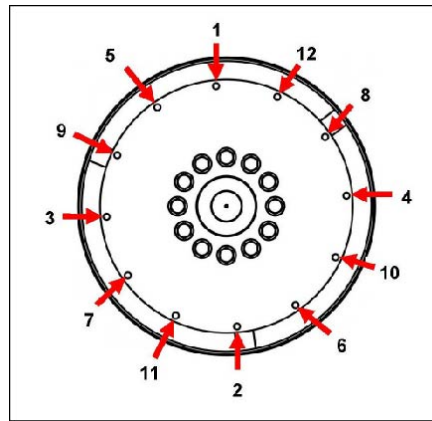

FIGURE 11. FIXING SEQUENCE
10. Remove the alignment dowels. Fit the coupling bolts, using heavy gauge washers under the heads. Tighten the bolts to fix the coupling disc to the flywheel, in the sequence shown in Figure 11 on page 27.